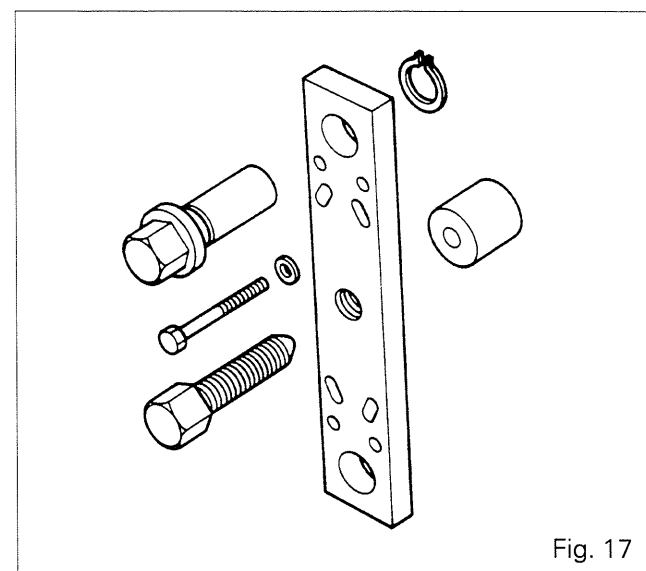

Fig. 17
**3378 038M1 - Ring gear carrier (42) puller (Fig. 17)**